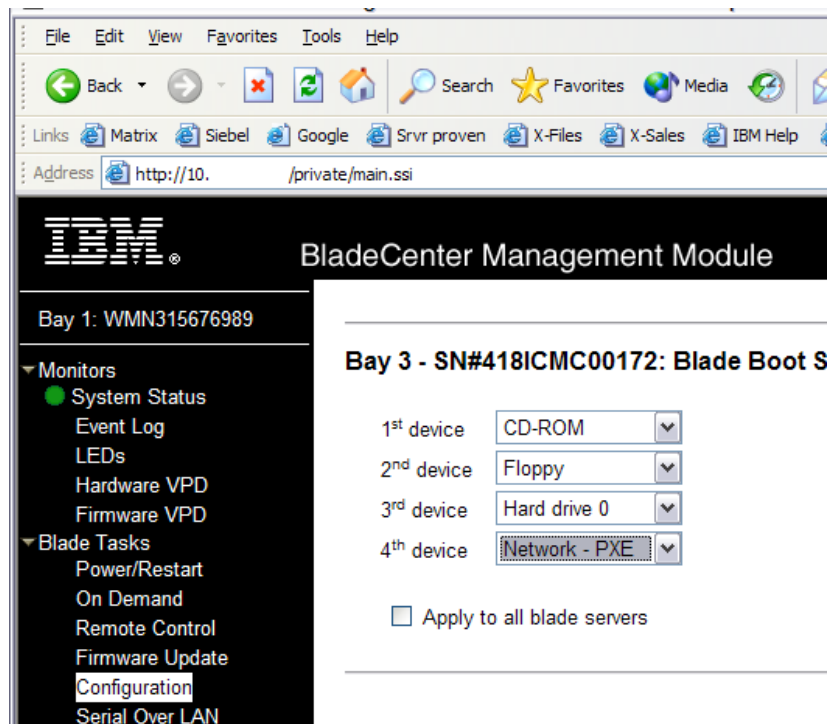

Figure 16 Changing boot order from Management Module for HS20
- If you have a lot of blades to update in a single blade chassis, the boot order changes may be made through the Management Module and applied to any or of all of blades in the chassis as a group. (See Figure 16 Changing boot order from Management Module) Since EFI appears as an unknown device for HS40s, it is recommended that the HS40 boot sequence be modified in BIOS program.